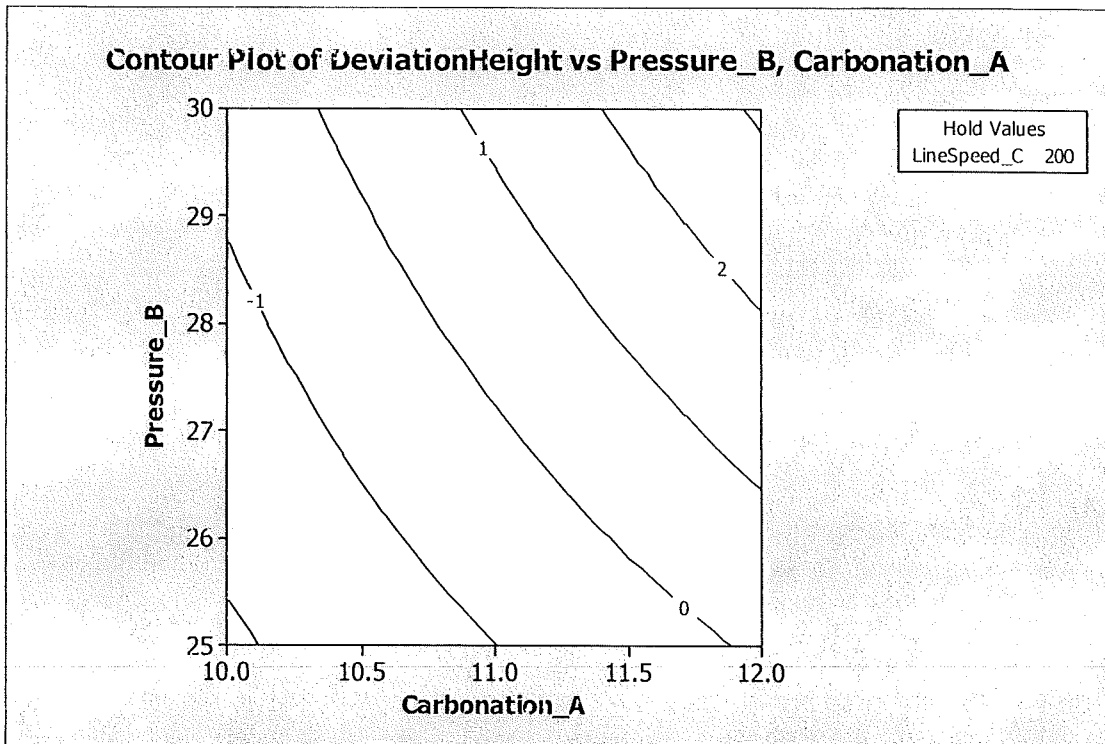
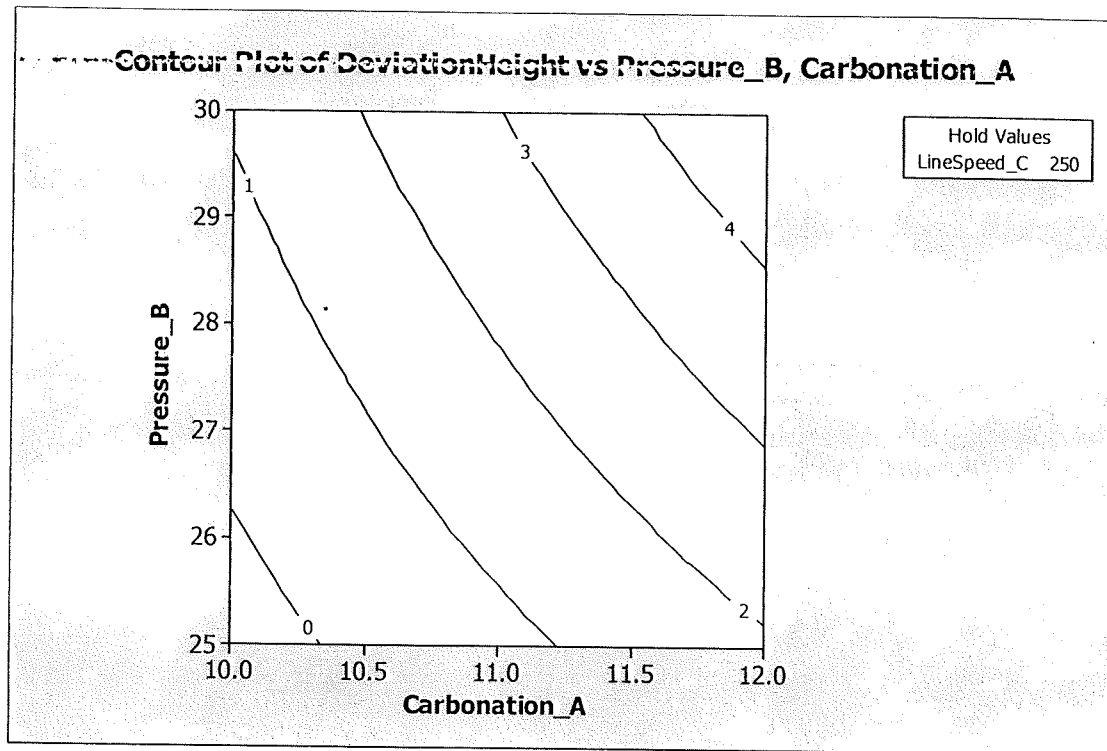

Figure 9: Contour Plot of DeviationHeight vs Pressure\_b,Carbonation\_A with hold Linespeed values 200 b/m
Figure 10: Contour Plot of DeviationHeight vs Pressure\_b,Carbonation\_A with hold Linespeed values 250 b/m
- (i) The above contour plots identify the fill deviation with respect to carbonation and pressure. The plot on Figure 9 set the speed at 200 b/m while the plot on Figure 10 with speed at 250 b/m. Provide your analysis on the above contour plots if the manufacturer wanted to minimize the deviation to zero.